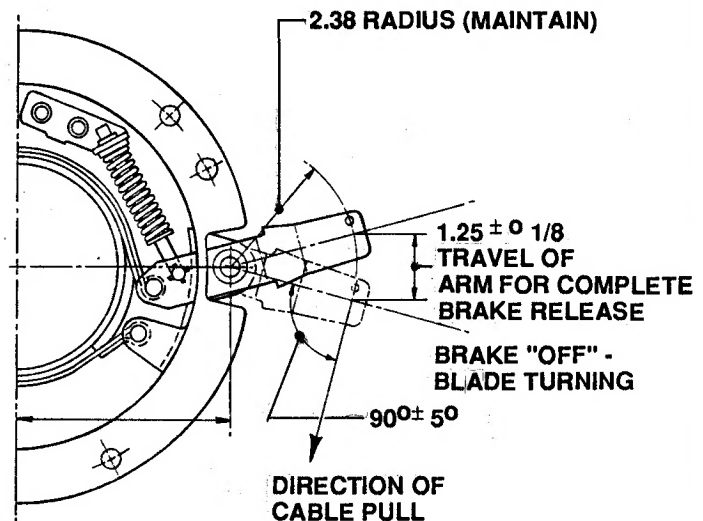

FIGURE 4.25
8. Check free travel of BALL SLUG inside BLADE CONTROL SPRING for correct movement. See Figure 4.25.